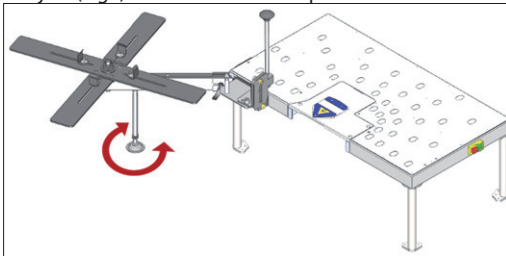

**Fig. 6**
- Assemble the center roller/rollers onto the dispenser (Fig 6), the rollers can be added or removed to fit different diameter of the Edgeband roll used. (Fig 7)